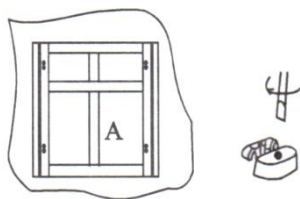

Figure 1(Soft Surface, Cam Lock Connector)
- Step 1. Remove the base unit parts and make sure all are accounted for. Place the door face frame (A) with the door facing down on a flat, soft working surface.
- Step 2. Insert the two side panels (B) into the grooves on each side of the face frame (A). Align the plastic half sections of the cam lock connectors. The half connector on the side panels should cover the plastic connector on the face frame and be flush. Using a screwdriver, turn the cam lock to the right 180 degrees (ref. Figure 1).
- Step 3. Insert bottom (D) into the grooves in the side panels (B) and into the grooves in the face frame (A).